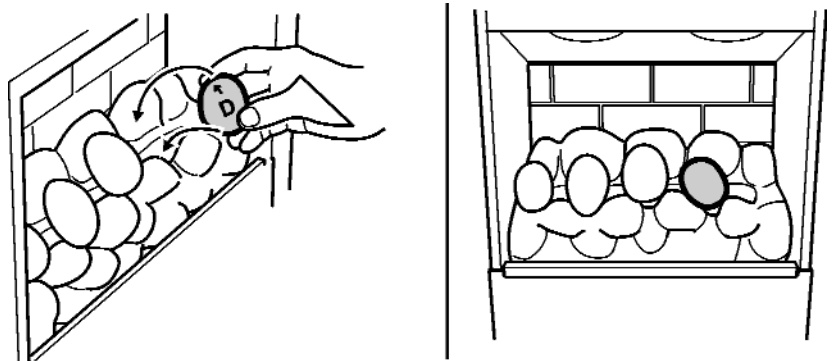

Figure 28.
5. Hold pebble 'D' upright with the arrow pointing to the top. Locate pebble 'D' as shown in figure 28.